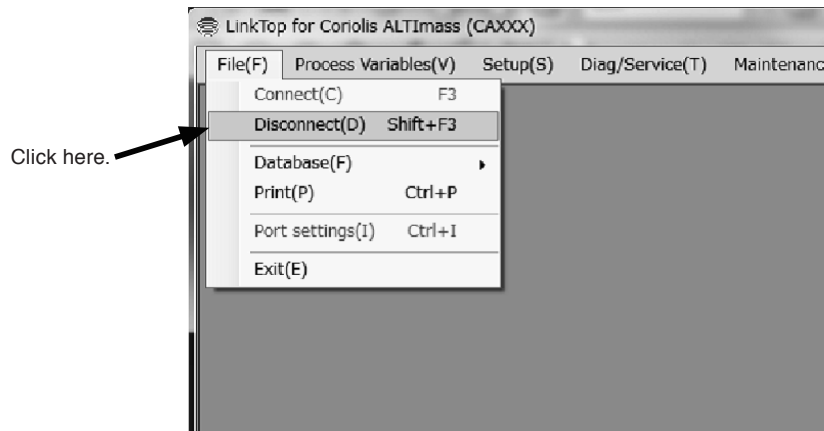

Fig.12
- ① Click on "File (F)" at top-level menu on the screen as shown in Fig. 12, and select "Disconnect (U) Shift + F3".